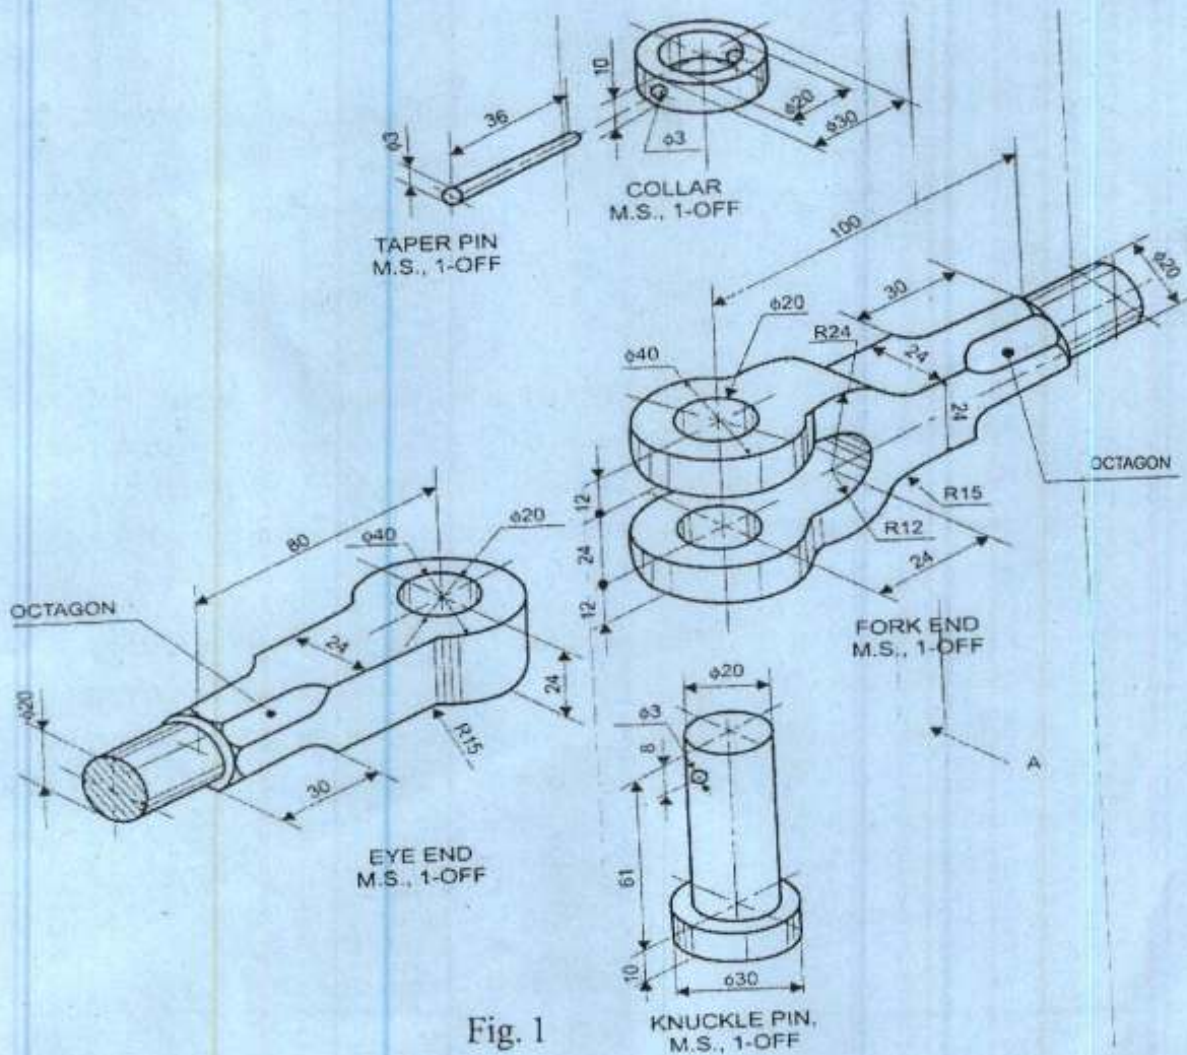

Fig. 1
3. The Figure 1. shows the details of a knuckle joint. Assemble the parts correctly and draw the top half sectional front view looking in the direction of arrow A in scale full size (1 : 1). Print titles, scale used and give dimensions. 30